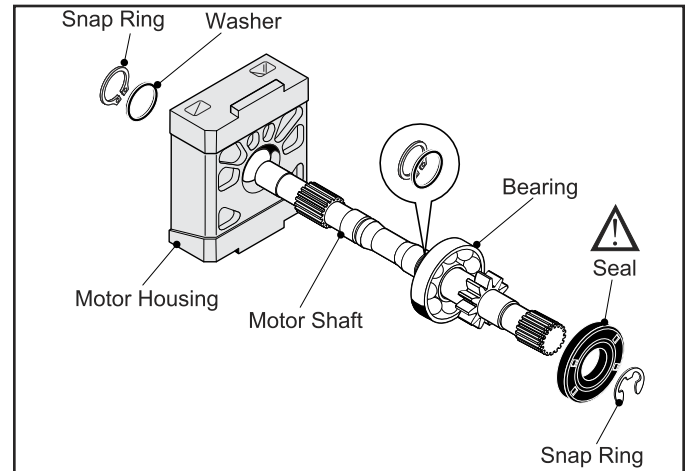

Fig. 29, Motor Shaft Removal
9. Withdraw the Motor Shaft from the Motor Housing. If the Shaft doesn't back out freely, check to see if Snap Ring was removed, see step 6. (Fig. 29)
10. Remove the Snap Ring and Washer. Inspect the Washer for wear or damage and replace if necessary. (Fig. 29)